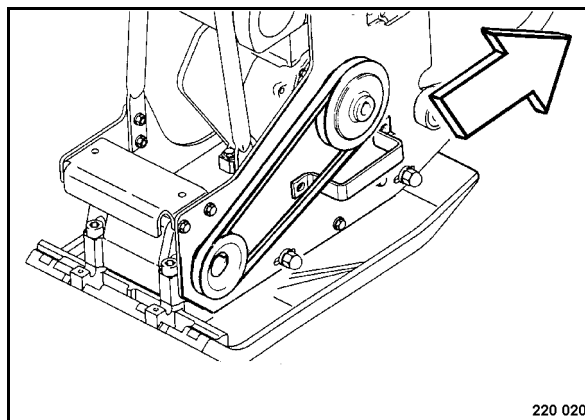

Fig. 46
- Pull the engine carrier back (Fig. 46) until the correct V-belt tension is achieved and tighten the four fastening screws.